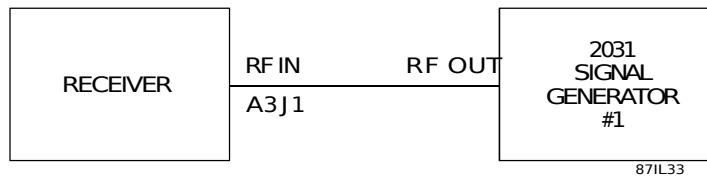

Figure 7-2. Front Panel Test Equipment Connections
1. Connect the WJ-8711A Receiver and test equipment as illustrated in **Figure 7-2**.